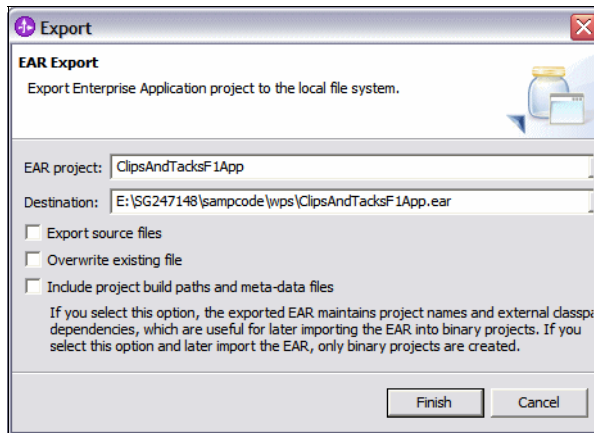

Figure 13-1 Exporting an enterprise application
- ▶ Click *Browse* to enter a destination (Figure 13-1), for example,